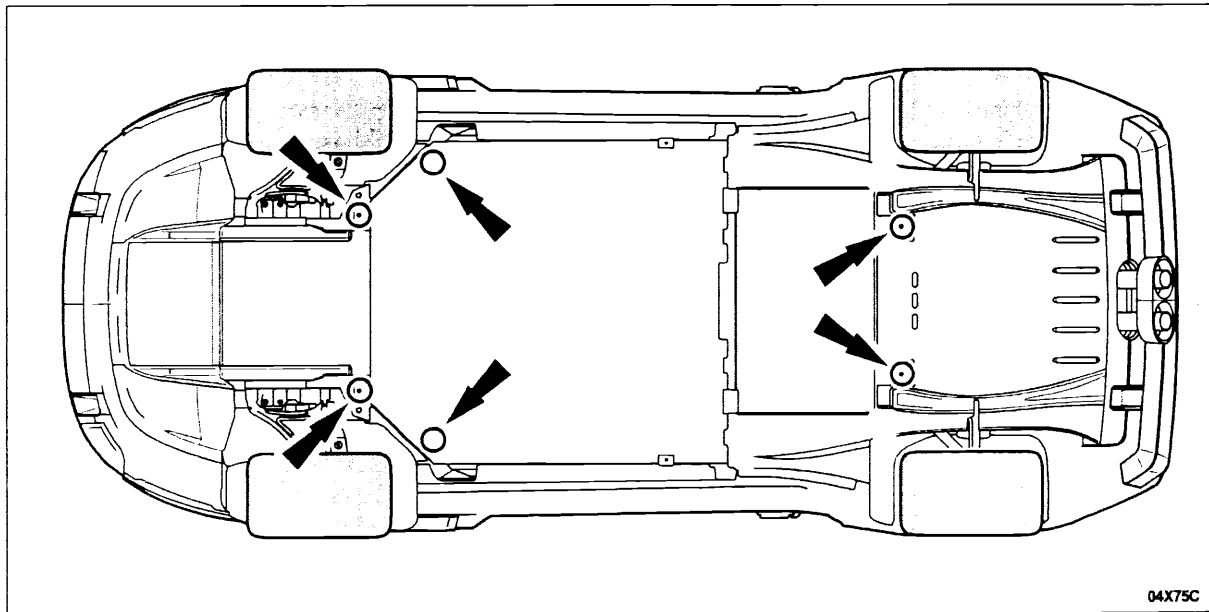

FIGURE 3
2. With the vehicle in NEUTRAL, lift the vehicle at the applicable lift points as shown in the figure. See Figure 3.